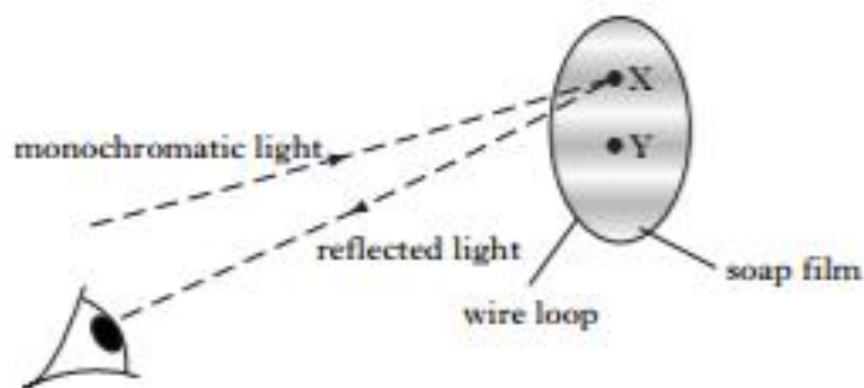

Figure 9B
- (b) A beam of monochromatic light of wavelength 580 nm illuminates a film of soap that is held in a wire loop. An interference pattern is produced as shown in Figure 9B.